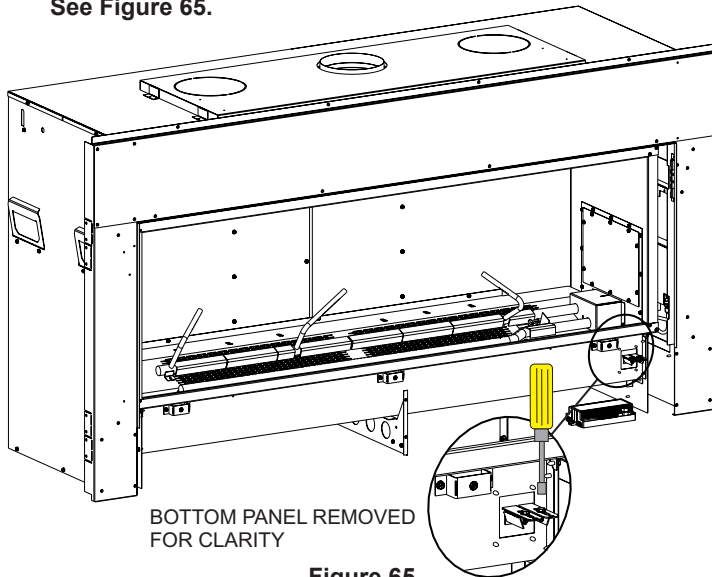

Figure 65
2. Loosen screws (2) that lock the air shutter handles. **See Figure 65.**